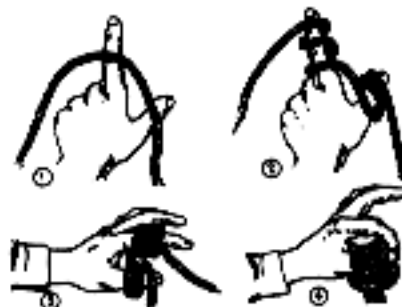

Figure 10-14. Finger prusik.
(1) Transport tightening system. Tie a fixed loop knot (wireman's knot) on the near side, insert a snaplink into the loop. Route the rope around the near side anchor. Insert the rope running around the nearside anchor into the snaplink. The wireman's knot is tied far enough in front of the nearside anchor to allow for tightening of the rope, or the wireman's knot can be pulled away from the nearside anchor by the far side team. Secure the far side anchor point with a round turn and two half hitches. The near side pulling team pulls all slack out of the rope and ties off the rope behind the wireman's knot with two half hitches on a bight.
(2) Prusik tightening system. Same as transport tightening system except, tie a finger prusik into the loop of the wireman's knot. Insert a snaplink into the top bight of the wireman's knot (not the loop). Route the rope running around the near side anchor through the finger prusik, and clip the rope into the snaplink. Pull on the rope and slide the finger prusik back as required. Tie off to an offset anchor point (figure 10-14).